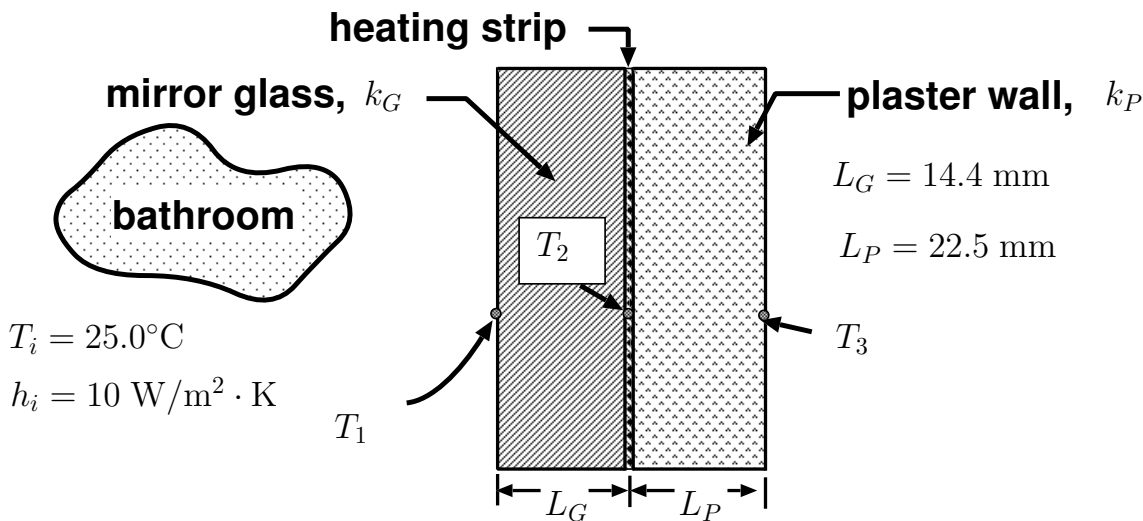

Figure 1: Figure for problem 1
1. A 14.4 mm thick mirror mounted on a 22.5 mm thick plaster wall in a hotel bathroom is shown schematically in Figure 1. The mirror has a surface area of 0.8 m² and is mounted with a very thin electrically powered heating strip between it and the wall. When the heating strip is operating, it produces energy at a rate denoted by \dot{Q}_{HS} . The heating strip produces uniform heating over the mirror surface area. The thermal conductivities of the mirror and the plaster can be taken to be $k_G=1.20\text{ W/m}\cdot\text{K}$ and $k_P=0.750\text{ W/m}\cdot\text{K}$, respectively. In your analysis, neglect any heat loss from the edges of the mirror (i.e., treat the problem as one-dimensional heat transfer). For the purposes of this analysis, the temperature on the back side of the plaster wall, T_3 , is taken to be 19.5°C, and the convection heat transfer coefficient between the mirror and the bathroom ambient air temperature is taken as 10.0 W/m²·K. For the conditions of interest, the bathroom ambient temperature is 25.0°C.